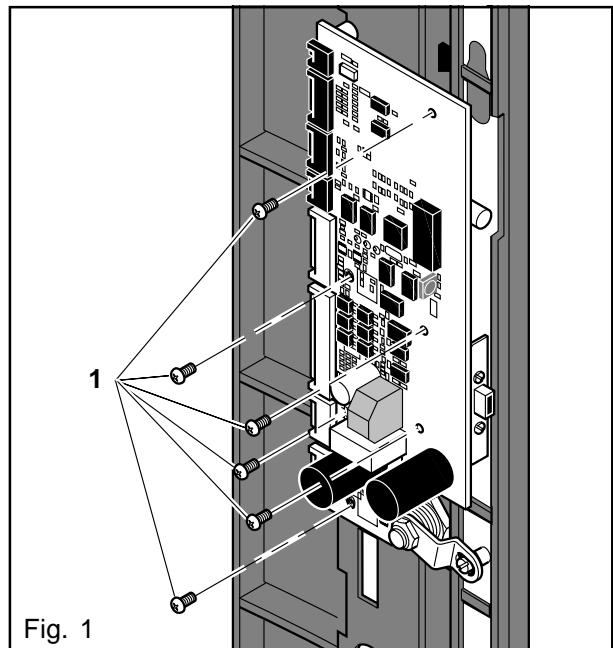

Fig. 1
- Remove the bottom front cover (1). (Fig. 1)
- Remove the protective cover (2). (Fig. 1)
- Loosen the tension relief screw (2) and disconnect the cable connection at the terminal strip (3). (Fig. 1)
CAUTION: When re-installing the power supply cable make sure that the connections are made correctly. Ensure tension relief for the cable. (Fig. 1)
- Remove the clips (1) (Fig. 1)
- Remove the door safety switch (2) to the rear out of the front cover (Fig. 1).
- Remove the screws (1) and take off the electronic control (Fig. 1).
- The EPROM (1) is plugged to the electronic control and can be pulled off (Fig. 1). Install a new EPROM.
- Disconnect the plugs (5, 6) (Fig. 1).
- Remove screws (2). Take off the sensor board (Fig. 1).
Legend for Fig. 1:
Main components of the power supply unit (Fig. 1):